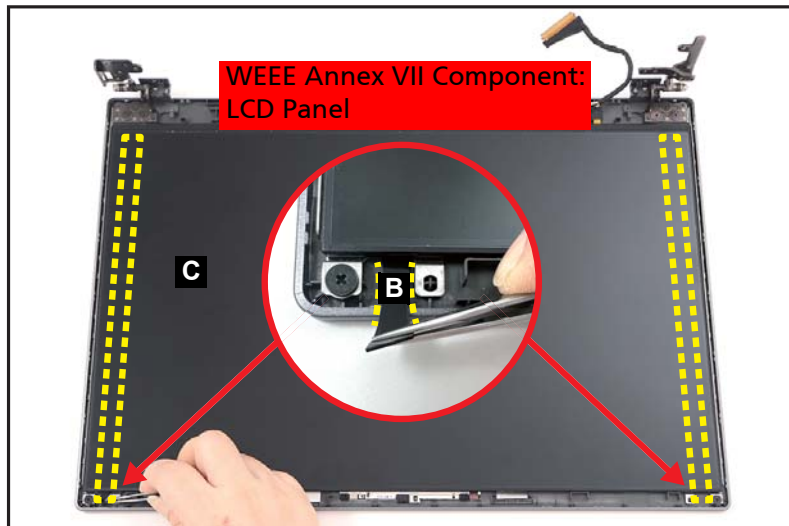

Figure 1-54. LCD Panel Removal
2. Pry slightly to access the double-sided mounting tape (B) underneath the LCD panel (C). Then pull to detach the double-sided mounting tape. Repeat the same procedure to remove the double-sided mounting tape on another side of the LCD panel (Figure 1-54).